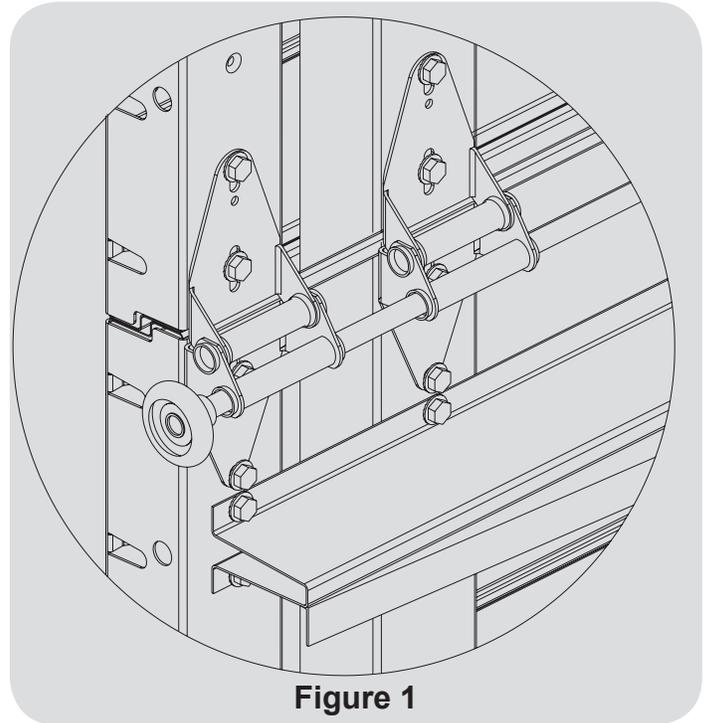

Figure 1
Products over 12'2" require U-bars to be secured to each section. Position the U-bars below the lower hinge leaf and attach with (2) 1/4-20 X 7/8" self drilling screws (1/2" from section edge) as shown in **Figure 1**.
NOTE: Double end stile application shown in **Figure 1**. Double end stiles are not typically provided for smaller doors.